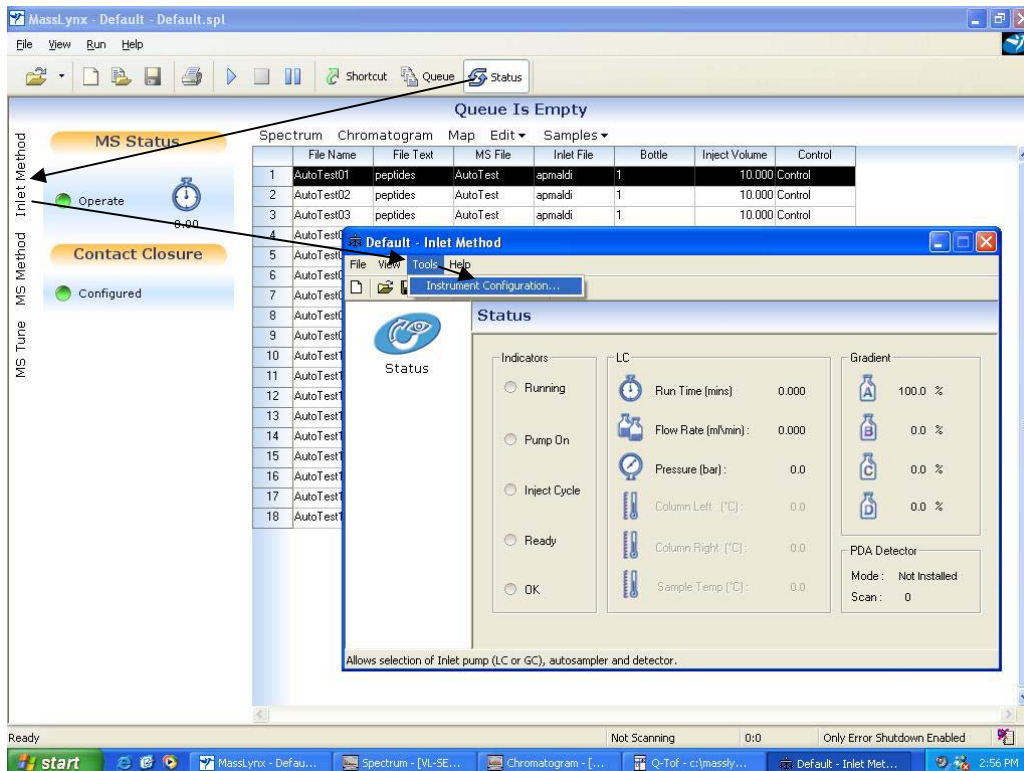
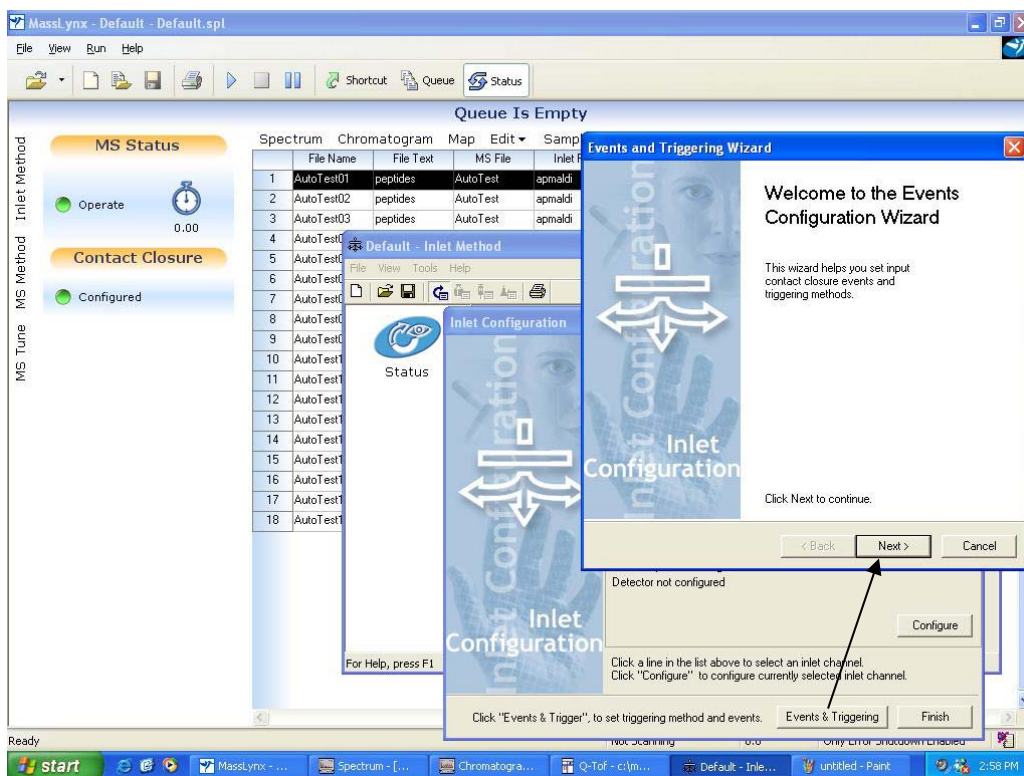
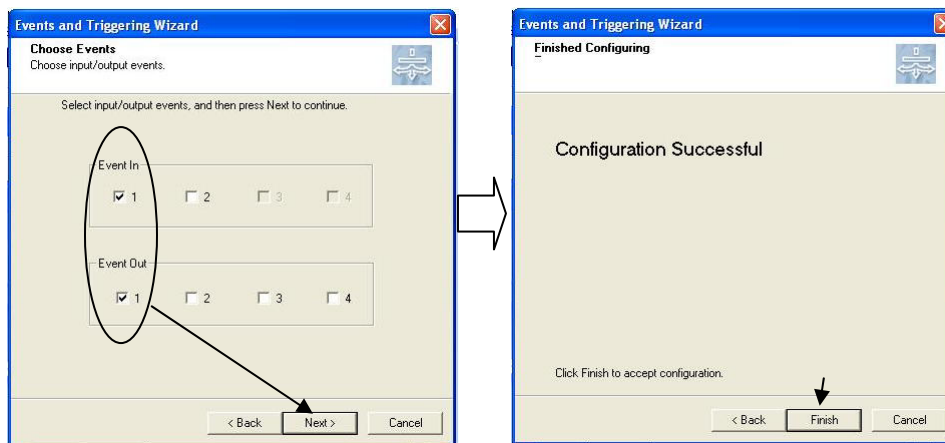

Fig. 45
Fig. 46
Fig. 47
- Open the *MassLynx* program. Open its “Instrument Configurations...” Dialog Box through Status->Inlet Method->Tools->Instrument configurations (see Fig. 45 below). Click on the “Events & Triggering” button to open Events and Triggering Wizard as shown in Fig. 46. Click on the “Next” button there. In a “Choose Events” window (see Fig. 47 at the left), check Event In number 1 and Event Out number 1 as shown in Fig. 47 (left). Click on the “Next” and then on “Finish” (see Fig. 47, right). Click on the “Finish” to close the “Inlet Configuration”, then close the “Inlet Method” window, too (see Figs. 45-46). When properly configured, the contact closure indicator or the left tool bar should be green, and say "configured" (as shown on figures 45 & 46).